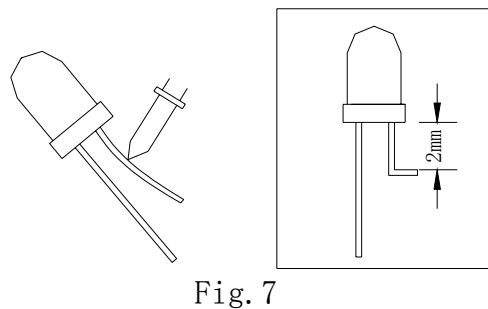

Fig. 7
1) The lead should be bent at least 2mm away from the package. Bending should be performed with base fixed to a jig or pliers (Fig.7)